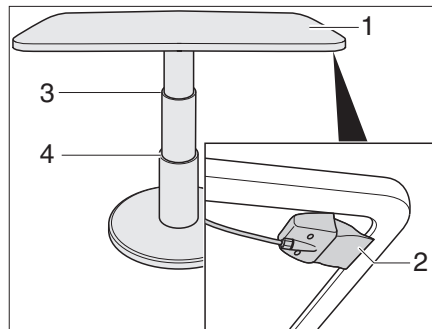

Fig. 56 Lift-off table for the round seating group
- Pull the catch lever (Fig. 56,2) upwards and hold.
- Press the table-top (Fig. 56,1) in the middle downwards to the desired stop limit (Fig. 56,3 or 4).